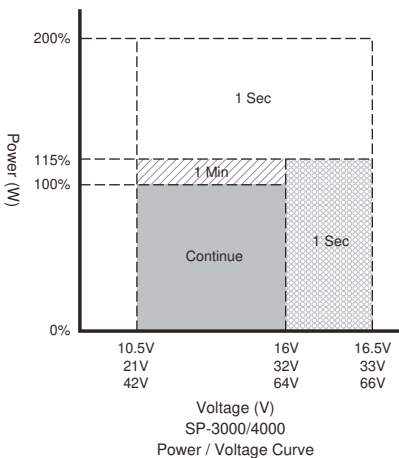
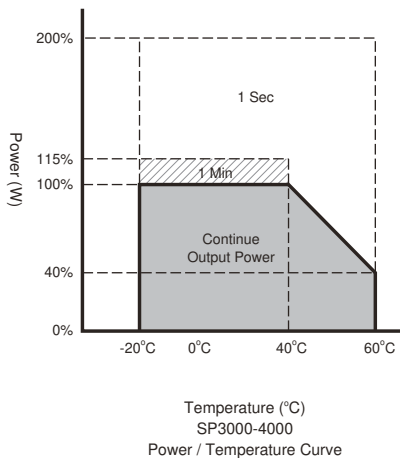

Figure 3. SP-3000/4000
Figure 4. SP-3000/4000
- ① Voltage range : Please refer to Figure 3
- ② Normal load Condition : Vin =12.5V/25V/50V, Vo=200/220/230/240 VAC 80% Full load (PF=1.0)
- ③ Operating temperature : Please refer to Figure 4
- ④ **Warning** : This is a class A product. In a domestic environment this product may cause radio interference in which case the user may be required to take adequate measures.
- ② Normal load Condition : $V_{in} = 12.5V/25V/50V$, $V_o = 100/110/115/120$ VAC 80% Full load (PF=1.0)
- ② Normal load Condition : Vin =25V/50V, Vo=200/220/230/240 VAC 80% Full load (PF=1.0)